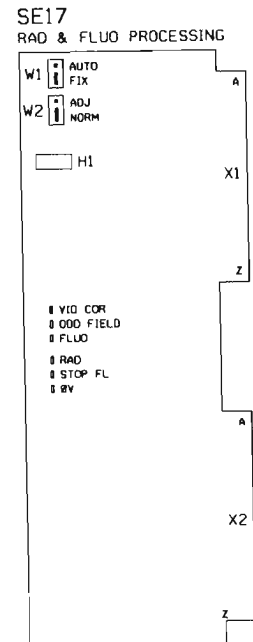

Figure 17
- Check whether jumper SE17:W1 is in "FIX" position (see Figure 17).